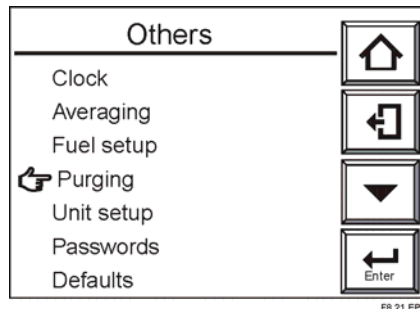

Figure 8-22 Other Settings
3. Select “Others”. The “Others” display screen shown in Figure 8-22 then appears.